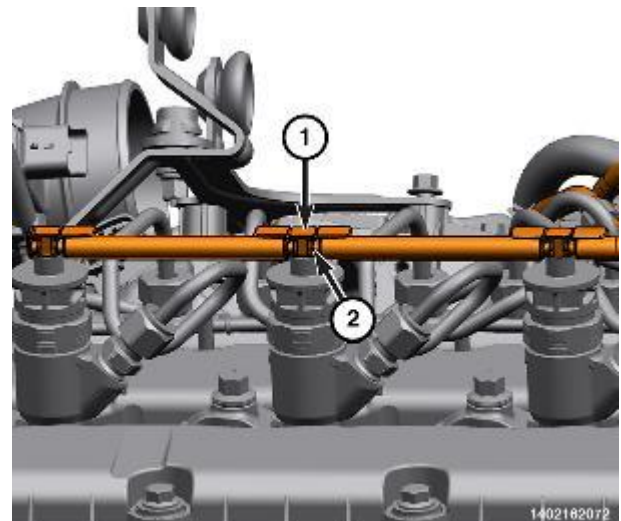

Figure 110 – Fuel Return Hoses
- 28. Lift up on locking tabs (1) to unlock the locks (2) on the right bank fuel return hoses on the tops of the injectors (Figure 110).
- 29. Remove the fuel return hoses (2) by wiggling hoses free from the fuel injector (Figure 110).